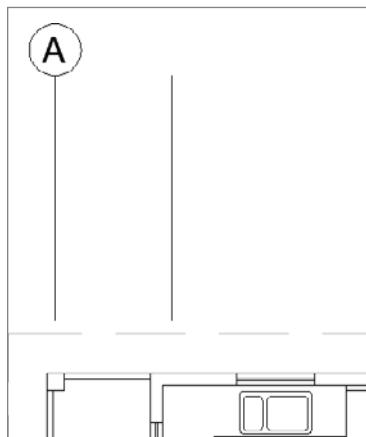

FIGURE 9.9 The first grid symbol block is inserted.
7. Pressing ↵ inserts the grid symbol at the endpoint of the leftmost vertical gridline (see Figure 9.9).